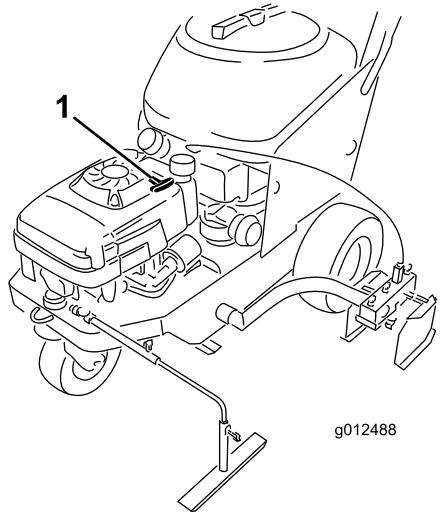

Figure 13
The recoil starter (Figure 13) is on the top of the engine. Pull the recoil starter to start the engine.
- Pull the starter handle (Figure 13) lightly until you feel resistance, then pull it sharply. Allow the rope to return to the engine slowly.